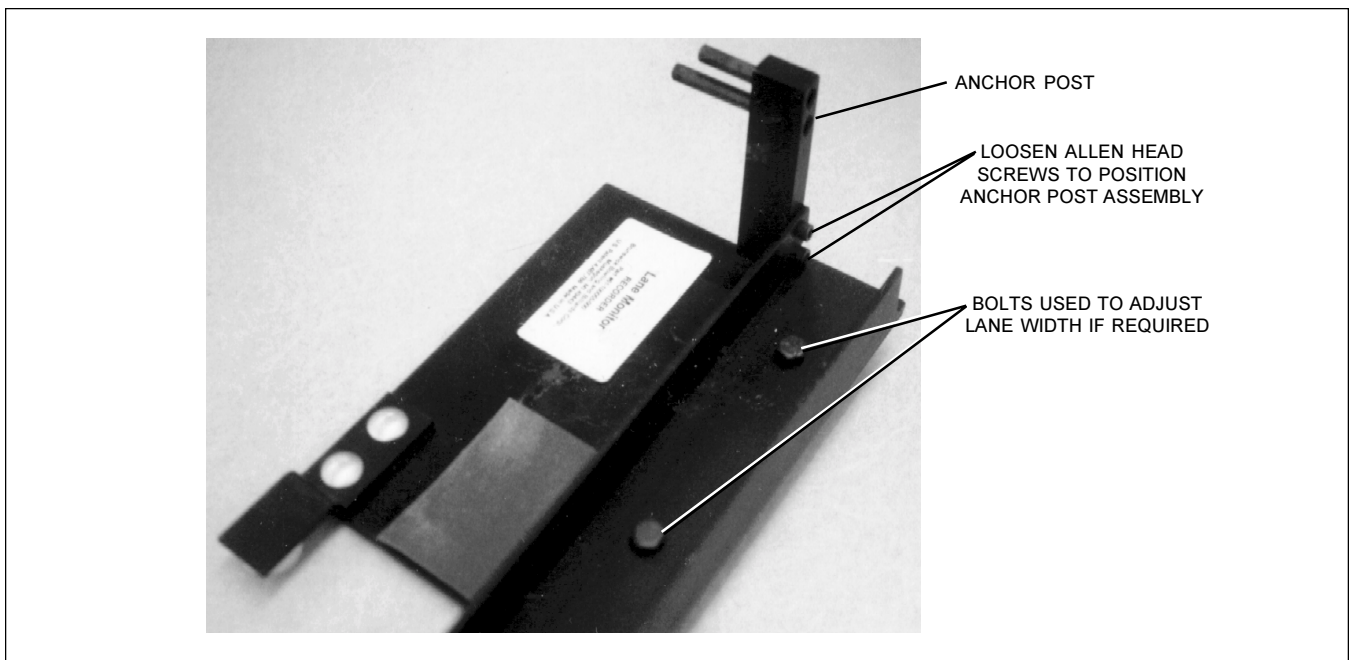

Figure 4 - Lane Width Adjustment
2. See Figure 4. Loosen the two Allen head bolts on the anchor post and pivot it up from the storage position to the vertical operating position. Retighten the screws.
3. Use the two bolts shown in Figure 4 to adjust the device for lane width. Both plates should be left off the lane and level with the lane edge. In general, it is not necessary to adjust the Recorder to each lane as long as the adjustment is wide enough to accommodate all the lanes, and the track is kept square to the edge of the lane.